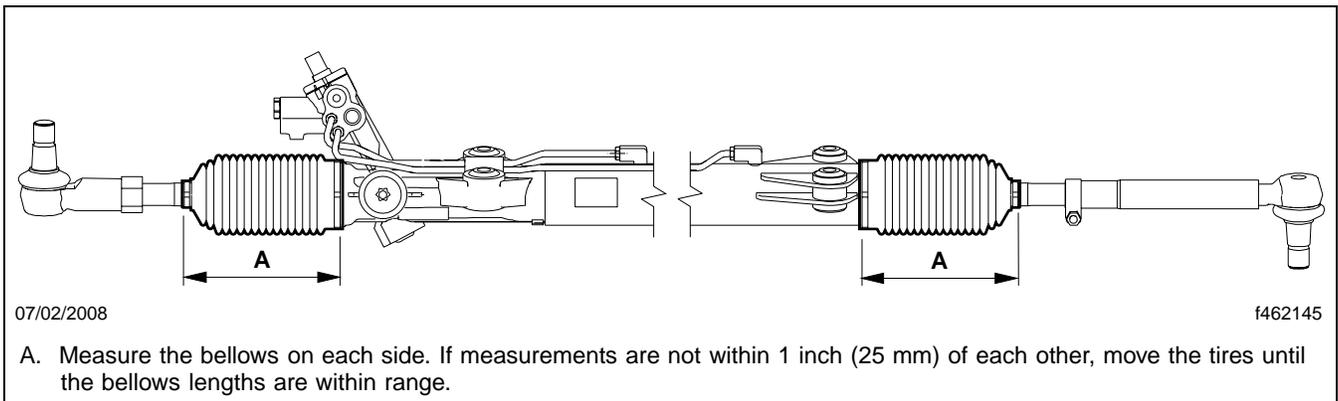

Fig. 10, Measuring the Tie Rod Bellows
- 36.1 Measure the length of the bellows from clamp to clamp on each side of the gear. See **Fig. 10**. If measurements are not within 1 inch (25 mm) of each other, move the tires until the bellows lengths are within range.